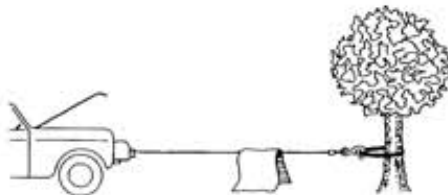

Figure 3
19. TAKE PRECAUTIONARY MEASURES TO PREVENT BACKLASH from a broken wire rope during winching operation; hang a blanket or carpet over the wire rope near the hook end (See Figure 3).